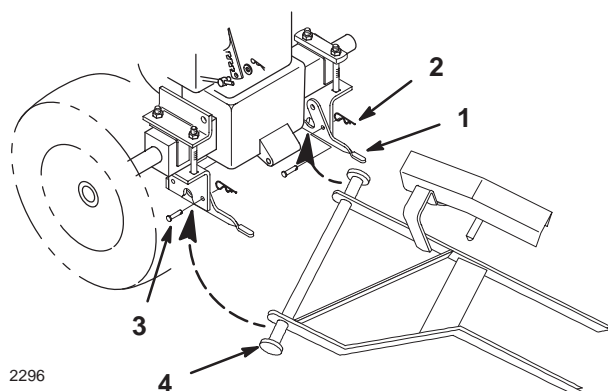

Figure 25
12. Remove hairpin cotters and clevis pins from latch levers (Fig. 25). Open latch levers and remove mounting rod.